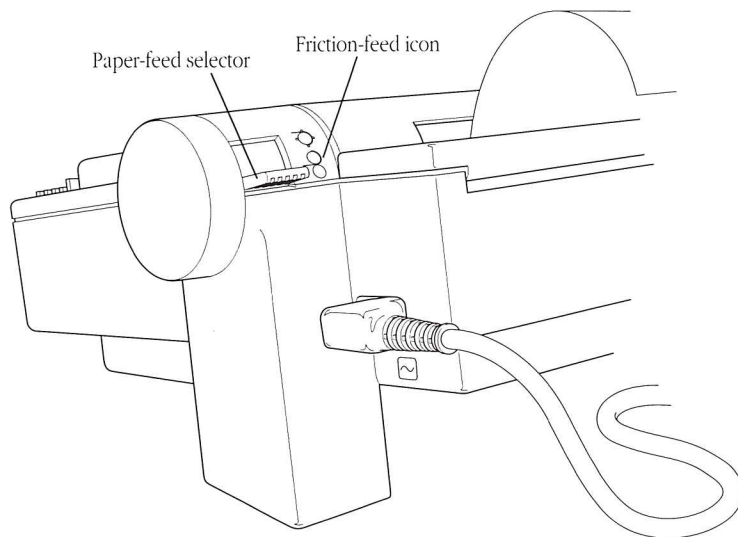

Figure 2-18 Paper feed selector set for friction feed
2. Set the paper feed selector (located next to the platen knob) to the down position for friction feed. (See Figure 2-18.)